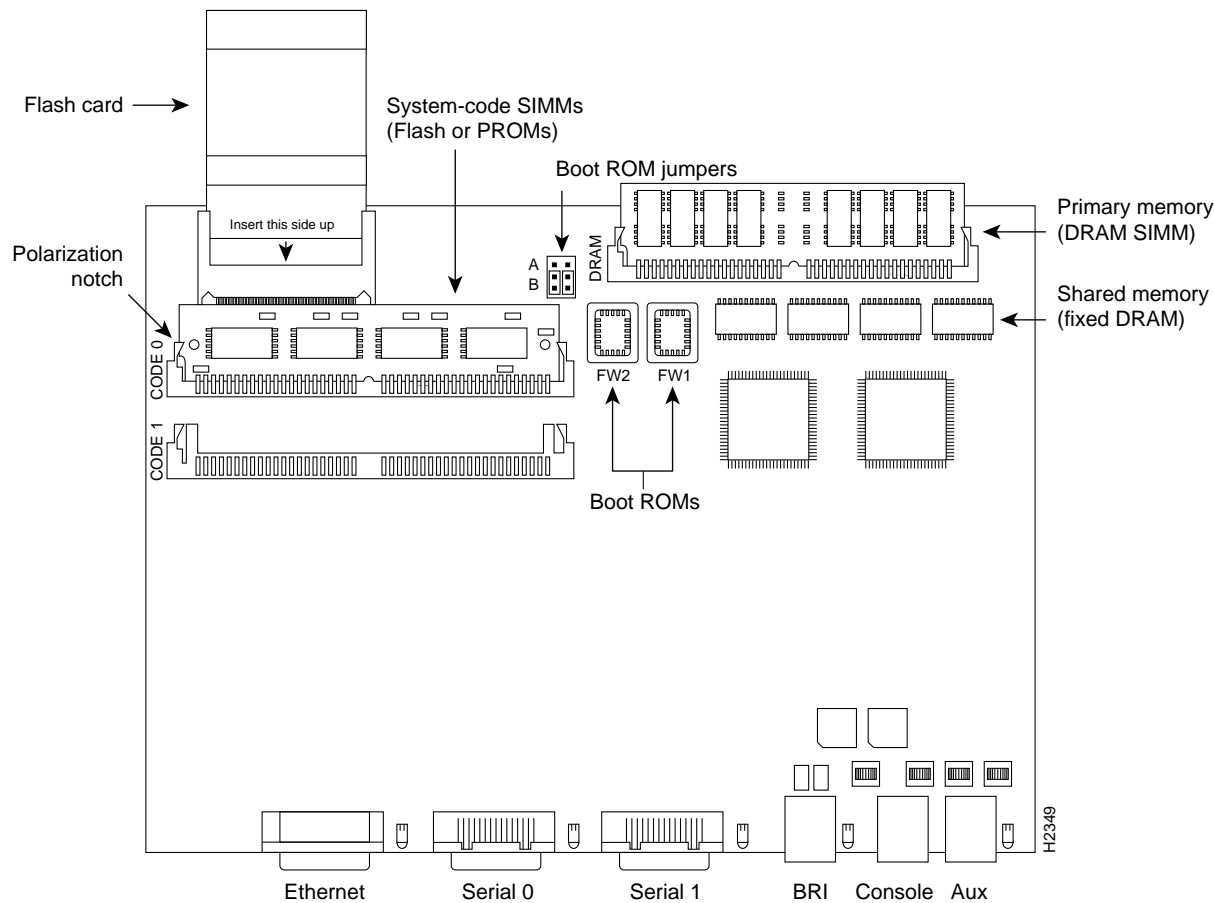

Figure 4 Inserting the Flash Card
- Step 4** Turn the chassis so the system board is in the position shown in Figure 4, with the primary memory DRAM SIMM socket away from you.
Step 6 Locate the flash card socket at the left upper corner of the system board, and insert the card into the socket (see Figure 4).